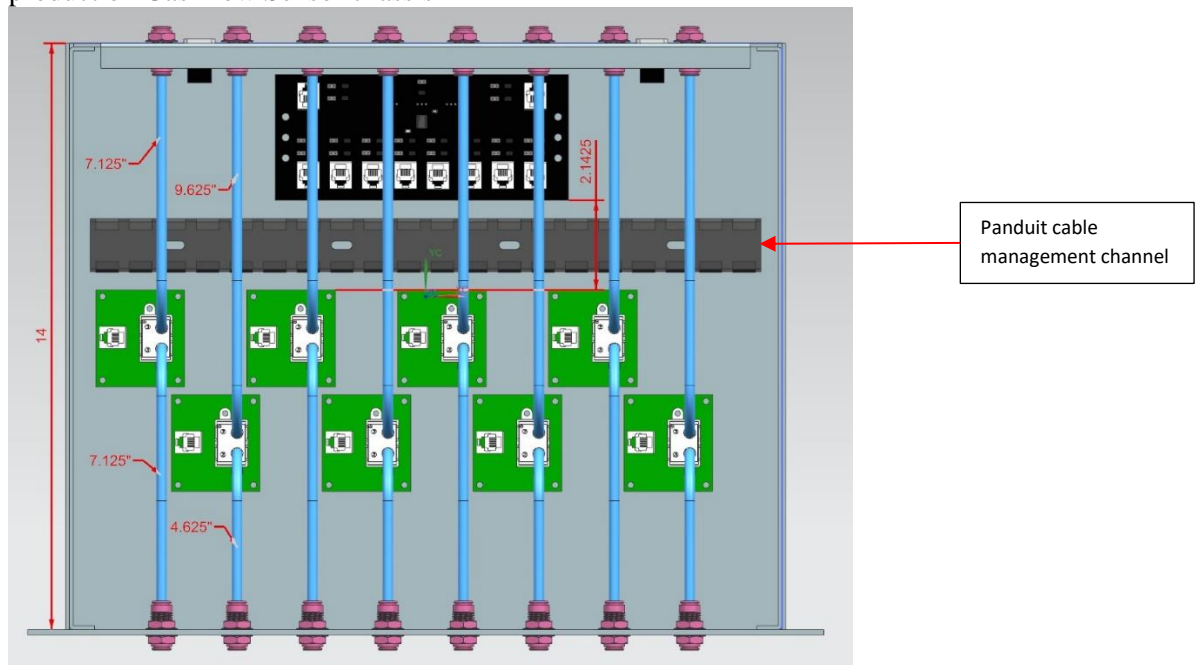

Figure 1. Gas Flow Sensor chassis final design model
- 1.1. The eight Gas Flow Sensor boards were shifted towards the front panel, creating a 2.1425" space for a 1" x 1.5" Panduit cable management channel between the Multiplexer board and gas flow sensor boards, Fig. 1